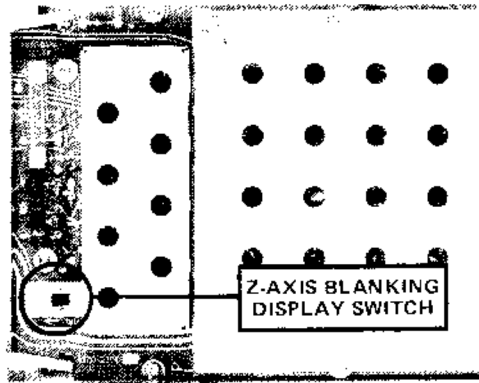

Fig. 1-5. Location of Z-Axis Blanking Display switch (on left side of instrument). The switch position towards the rear of the unit selects Z-axis blanking.
**Z-Axis Blanking.** Z-axis blanking provides an on-screen display of the approximate delay interval. This is accomplished by blanking out the CRT display during the delay interval. Z-axis blanking can be obtained with the 7D11 installed in any plug in compartment. The Z-axis blanking display is selected by a slide switch located inside the unit (on the left side; see Fig. 1-5).